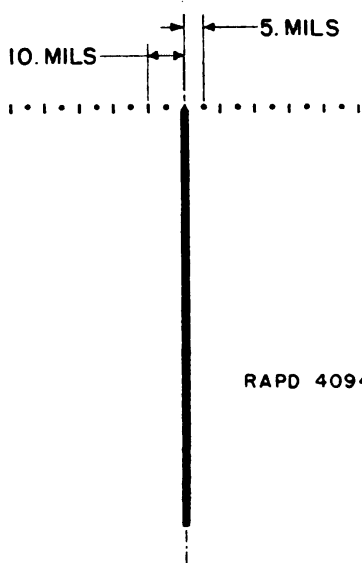

FIGURE 6.—Reticle pattern, telescopic sight M1.
(2) A limited procurement telescopic sight, designated telescopic sight T3, has been manufactured in quantity and is available for use with this machine gun. Except for range dial graduations and slight difference in size, the telescopic sight T3 is similar to the telescopic sight M1. The following description, while intended primarily for the telescopic sight M1, is applicable to the telescopic sight T3 as well, with the exceptions noted.
(3) The telescopic sight has a magnifying power of 3.25X with a field of view of 12°. The reticle pattern (fig. 6) consists of a centrally located aiming post flanked on both sides by short vertical lines, equally spaced, representing 10-mil intervals. The space between each two lines is subdivided by a dot, forming 5-mil intervals. Rotation of the elevating cam raises or lowers the reticle within the sight,